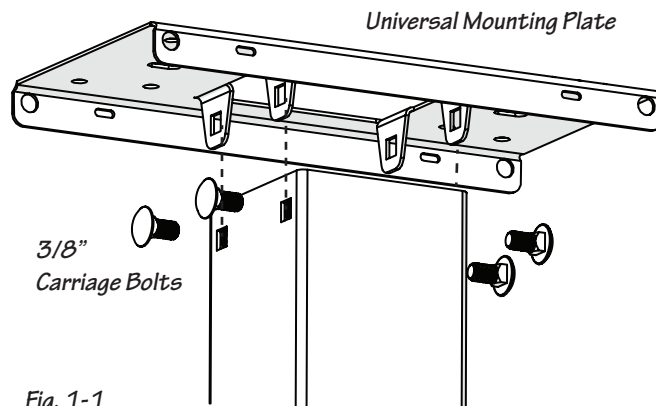

Fig. 1-1
- Slide the universal mounting plate over the post. The 4 mounting tabs will be positioned on the outside of the post tube as shown right in Fig. 1-1.